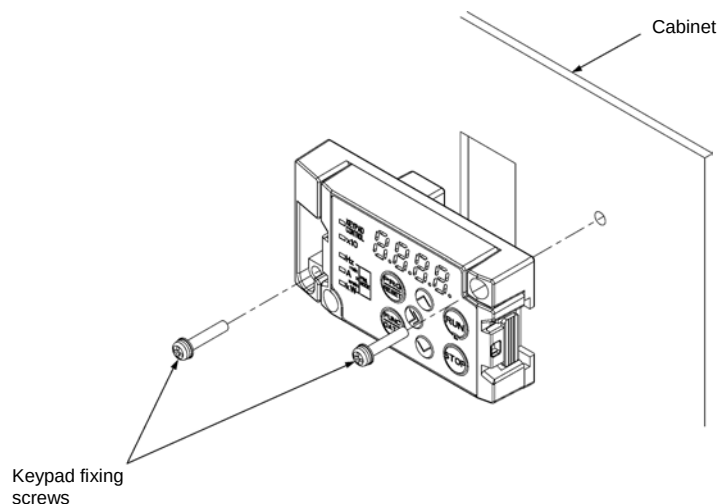

Figure 2.3-7 Attachment of the Keypad
- (4) Fix the keypad to the cabinet using 2 keypad rear cover fixing screws. Refer to figure 2.3-7 (tightening torque: 0.7 N•m(6.2lb-in)).